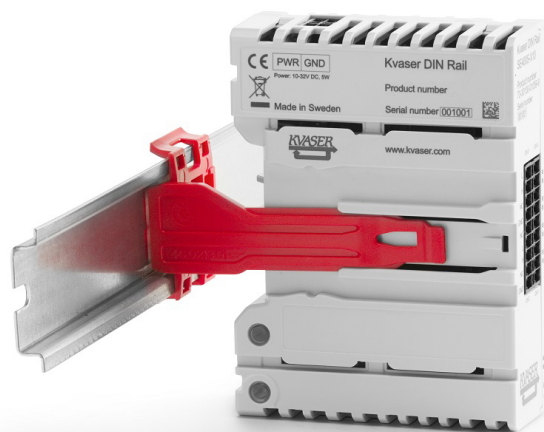
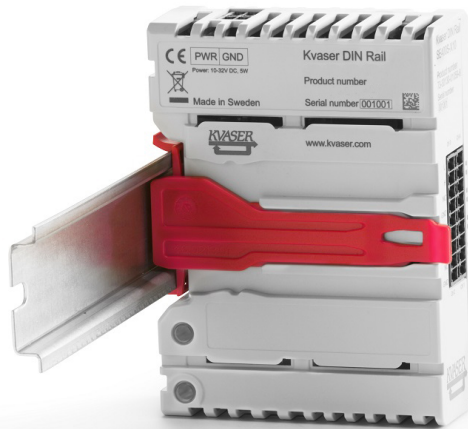

Figure 3: Inserting module into clip mounted on a DIN Rail.
Figure 4: Module securely mounted on a DIN Rail.
2. Mount the Kvaser DIN Rail SE410S-X10 module by inserting the module so that the mounting clip fits into the guiding rail of the module. Apply slight pressure of the module against the DIN Rail so that the module locks into place, see Figure 3 on Page 9 and Figure 4 on Page 10.